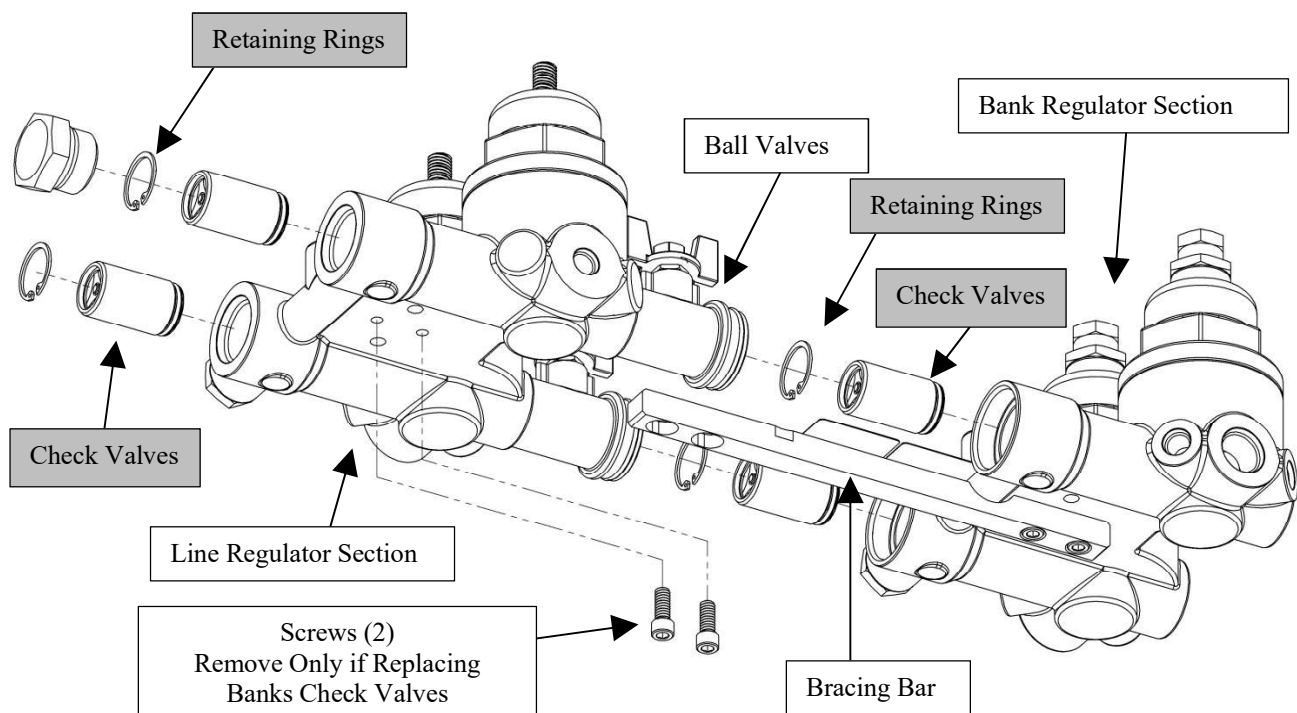

Figure 28: Check Valve Removal. NFPA version HP x HP Manifold Shown.
See Figures 28 and 29.
3. Using Needle Nose pliers grasp the Guide of Check Valve and pull Check Valve out of the manifold Body. See Figure 28 and 29.